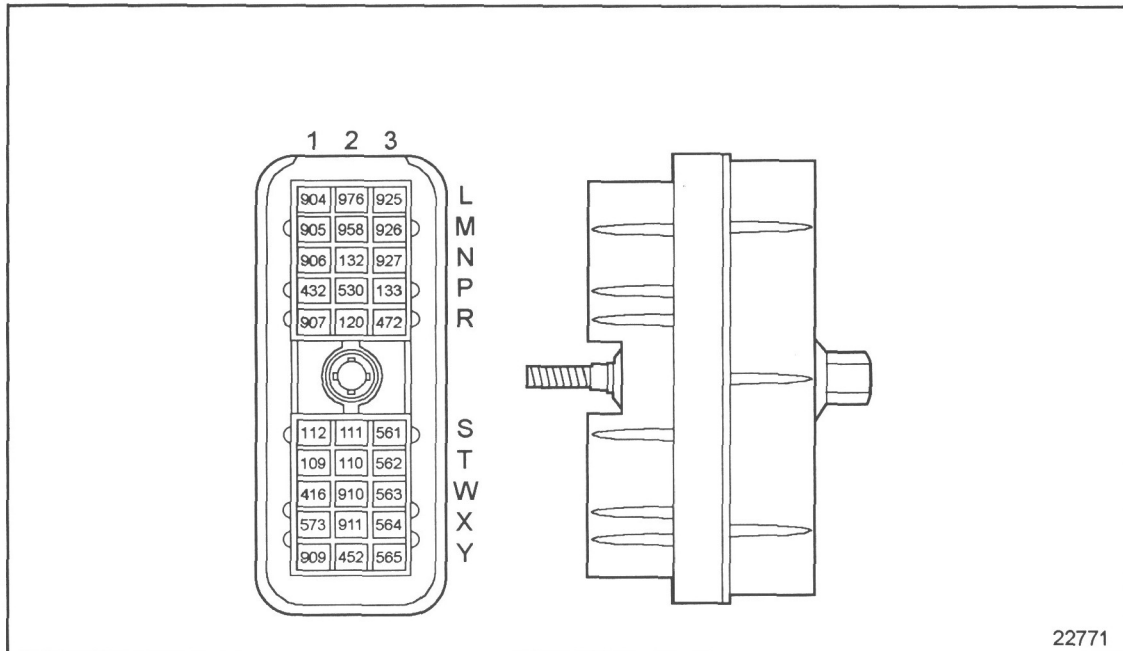

Figure 28-3 ECM Engine Harness Connector
3. Measure resistance between sockets N2 and Y2 on the engine harness connector. See Figure 28-3.